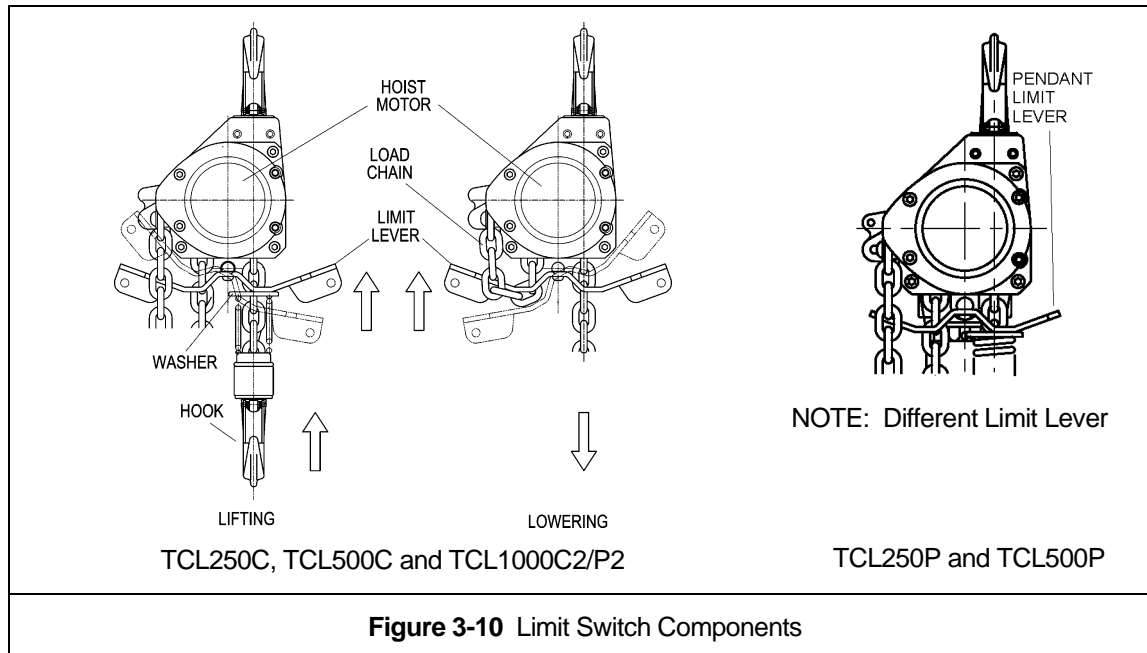

Figure 3-10 Limit Switch Components
- 3.13.5 **⚠ WARNING** Verify that the Chain/Limit Lever is operational and can move freely in both the up and down directions. For reference see Figure 3-10.